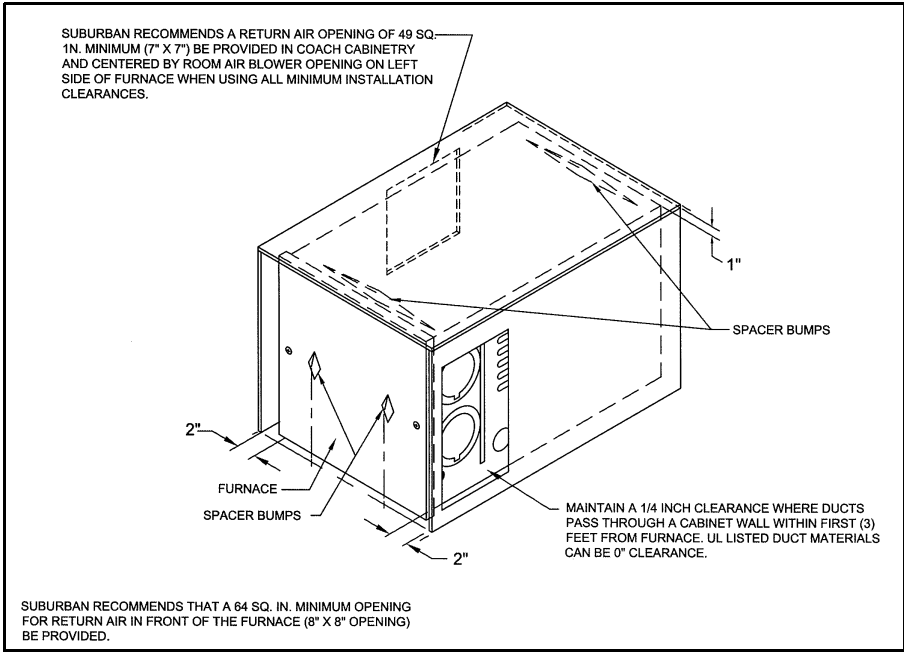

Figure 3
5. Maintain a minimum of 1/4" clearance where ducts pass through any combustible construction; such as, coach cabinetry. (See Figure 3.) **NOTE: UL listed duct materials can be "0" clearance.**